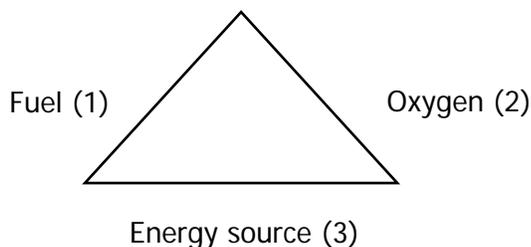

Figure 4. The fire triangle
For a flammable liquid to ignite, three conditions must exist simultaneously: (1) the concentration of the vapor must be between the upper and lower flammable limits of the substance; (2) an oxidizer (usually the oxygen in air) must be present; and (3) a source of ignition must be present. This phenomenon is usually referred to as the "Fire Triangle" (Figure 4). Removing any of the three components will extinguish a fire.